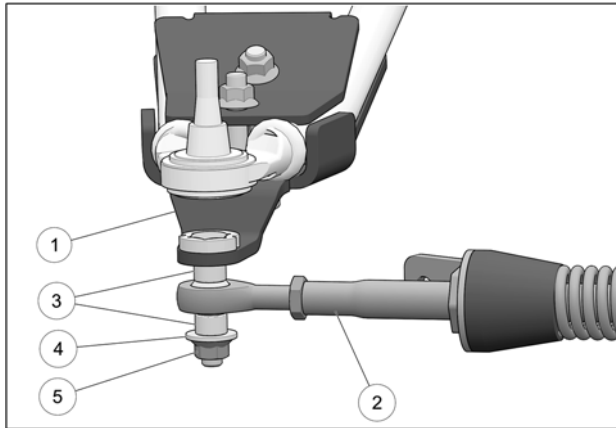

Fig. 16
8. Attach stabilizing rod (2) to anchor bracket (1), using the two spacer bushings (3), flat washer (4) and nut (5). Torque to 70 N•m [52 lb•ft]. See Fig. 16